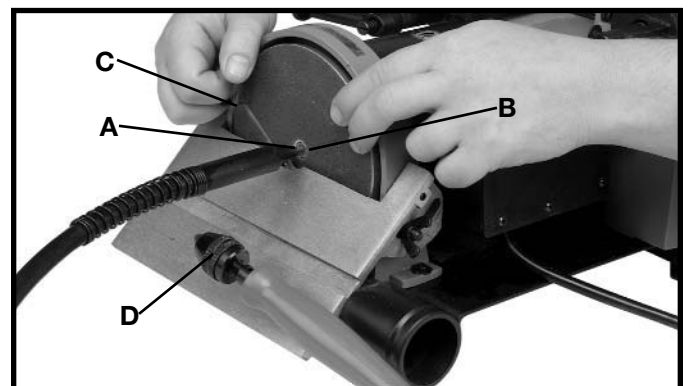

Fig. 29
4. Insert the threaded end (A) of the flexible shaft into the power take off shaft (B) as shown in Fig. 29, and tighten securely with pin (C). Remove pin (C) once flexible shaft is attached securely to the power take off shaft.
5. Insert an approved attachment into the keyless chuck (D) on the flexible shaft and tighten securely.